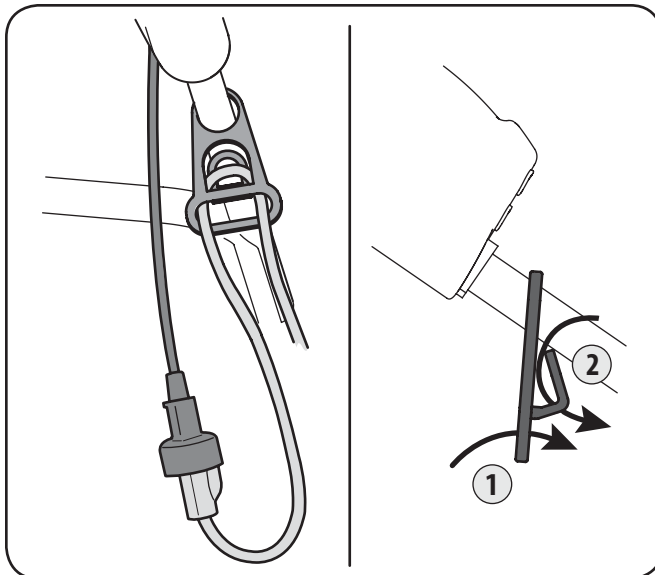

Figure 3-7
2. Push the loop through the bottom hole in the cord retainer. See Fig. 3-7.
3. Position the loop over the clip found on the cord retainer and pull down until the cord fits snugly into the clip. See Fig. 3-7.